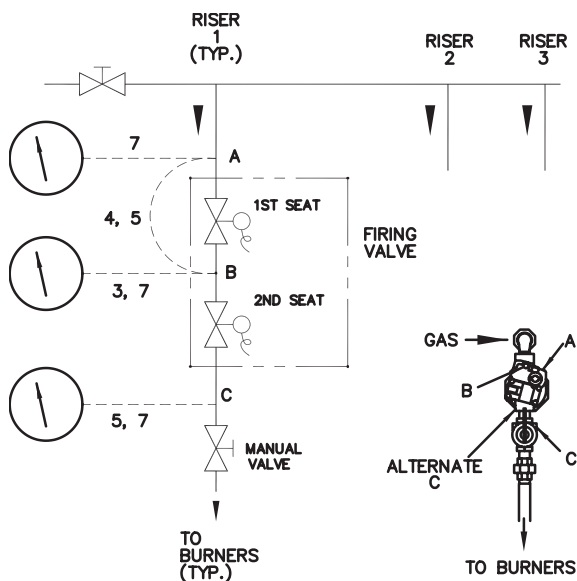

Fig. 47: Leak Test
Refer to Fig. 47. The numbers on the diagram refer to the steps below:
6. Perform leakage test on gas valves. (See Fig. 47.)